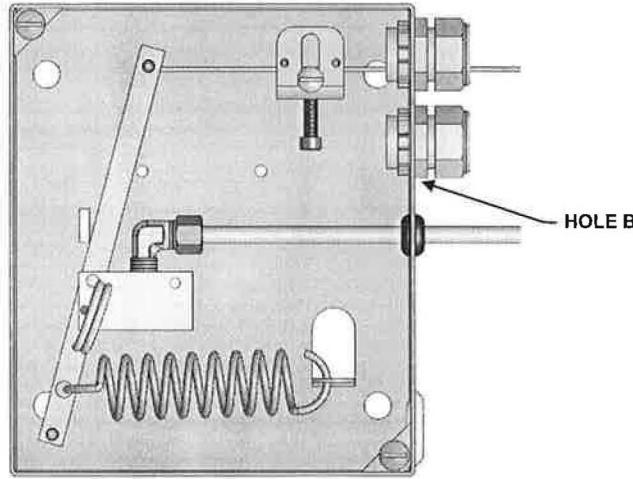

Figure 4-45. Single SPDT Microswitch Installation
2. Connect 1/2-inch (13 mm) EMT to hole "B" on the side of the A+ Control Box (Figure 4-45).